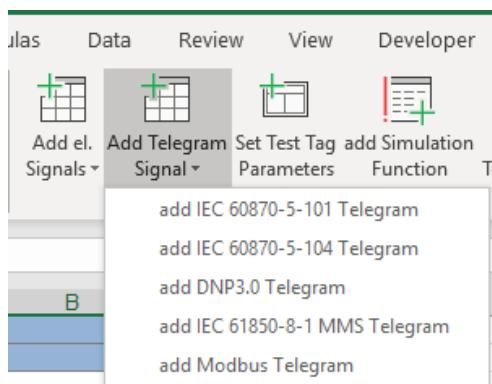

Figure 116 Add virtual Signals Menu
- Menu Add Telegram Signal, to add a telegram signal to a Test Object. Select the preferred Telegram Type in the Menu. It is shown in Figure 116